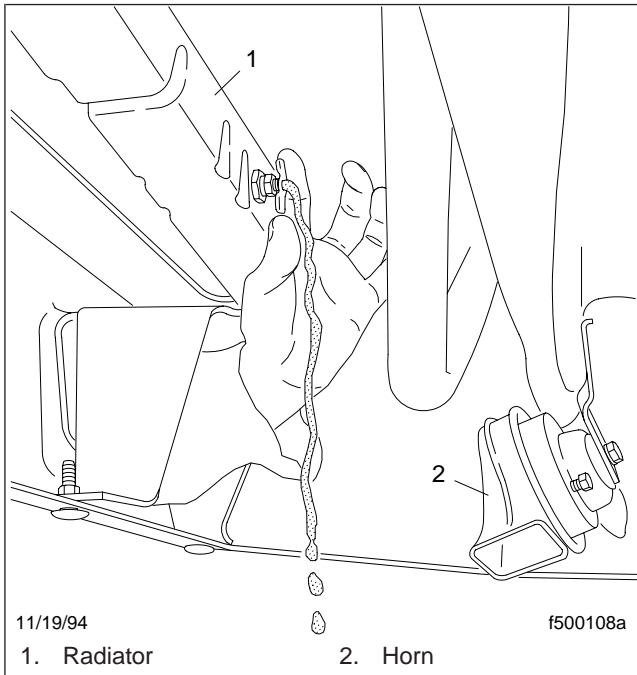

Fig. 2, Draining The Engine Coolant
- 1.2 Open the petcock at the bottom of the radiator to drain the engine coolant. See Fig. 2.